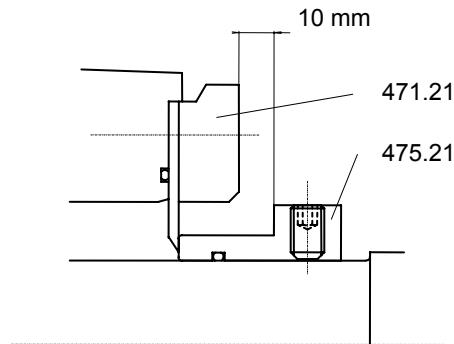

Fig. 5
- 8 When the exchange unit is fully assembled, place the thrust ring (475.21) at the right position on the shaft and fasten the grub screws (904.21). The distance between the face of the cover plate for seal and the shoulder of the thrust ring must be 10 mm. Fig. 5.